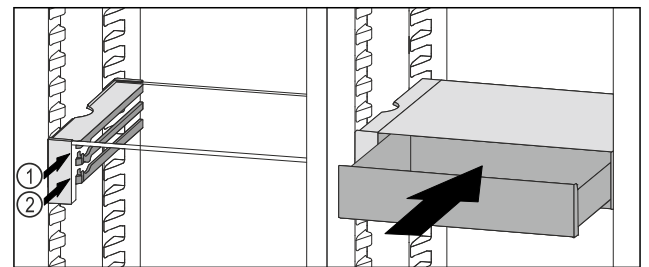

Fig. 96
- ▶ Place the VarioSafe drawer behind the stoppers on desired rib Fig. 96 (1) or Fig. 96 (2).